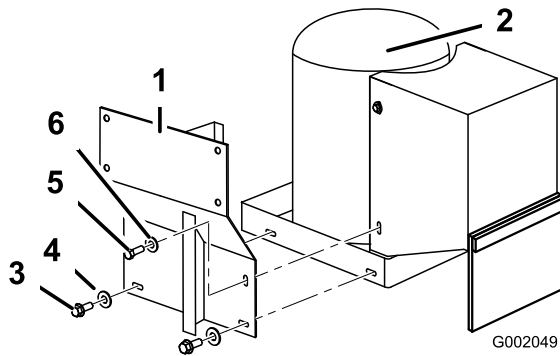

Figure 11
10. Mount the Workman adapter bracket supplied in the kit to the tank/compressor assembly using 2 bolts (3/8 x 1 inch), 2 flat washers (3/8 inch) as shown Figure 11.
11. Install the remaining bolt (1/4 x 1 inch) and flat washer (1/4 inch) through the Workman adapter bracket and cover into the tank/compressor assembly (Figure 11).